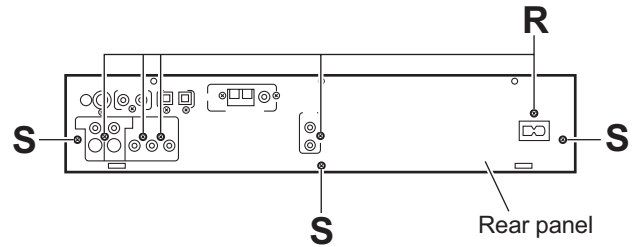

Fig.12
- (5) From the back side of the main body, remove the five screws **R** and three screws **S** attaching the rear panel. (See Fig.12.)
- (6) Take out the rear panel together the audio & digital input board and tuner. (See Fig.12.)